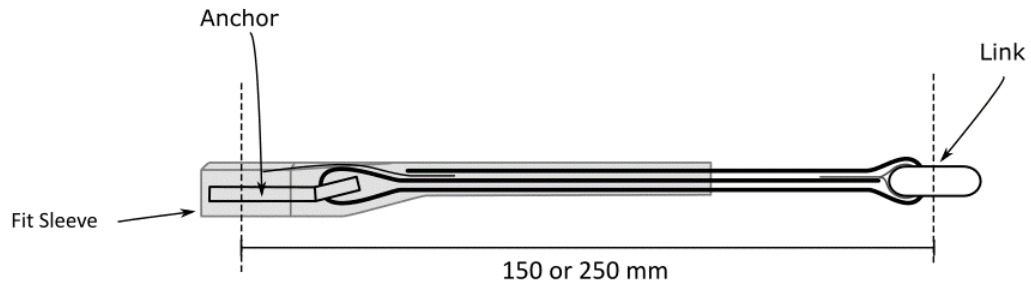

Figure 6.2 Droplink
- Figure 6.2 shows a side view of the droplink with labels. The length is measured from the centre of the bolt hole to the centre of the link.